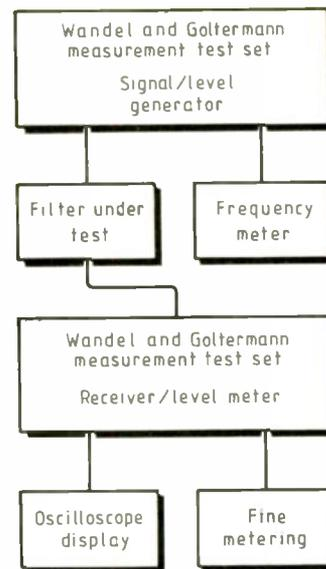

Fig.6. Measurement set-up using Wandel and Goltermann WM50.
versus frequency response, was measured using a Wandel and Goltermann test set with the filter inserted as the device under test (Fig. 6). The attenuation was measured at the six selected frequencies of 5.68, 6.39, 6.52, 7.32, 10.43 and 12.11 MHz. The attenuation values at each frequency were keyed into a program run on an IBM PC AT(E) microcomputer which implemented the Antreich *et al* algorithm2. The output was the number of turns adjustment required by the components.